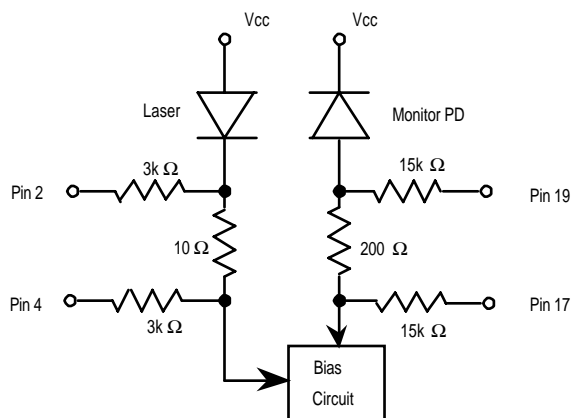

Figure 3 Monitor Circuit Schematic Diagram
7. The Laser Bias and Rear Facet Monitor currents are calculated as ratios of the corresponding voltages to thier current-sensing resistors, 10Ω and 200Ω , respectively (See Figure 3). Upon measuring or utilizing these values, use a device whose input impedance is high enough ($>1M\Omega$) compared with those resistors.
3. Please refer to Figure 3 for Pin 2, 4, 17, 19.